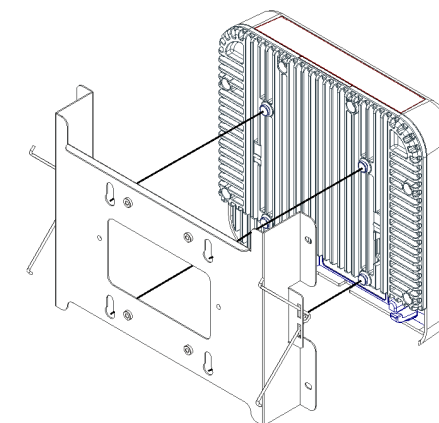

Figure 6 - Reattach Mounting Plate to Trim
Step 6 - The Cisco 2700e, 3800e, and 3800i AP's should be aligned with the Oberon mounting plate so that the flange on the bottom of the Oberon mounting plate is opposite the Ethernet ports on the AP, the mounting plate that comes with the Cisco Access point is only required for use with the Cisco 2700i. All other variations get attached directly to the Oberon mounting plate. Attach the Cisco access point to the Oberon mounting plate by inserting the mounting feet on the bottom of the Cisco access point into the keyhole slots and sliding the AP to lock into position, as shown (Figure 6).